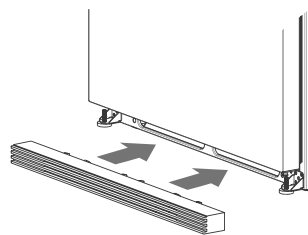

Fig.4 Toe grille installation
- d If the product is stable and no door leveling is required, place toe grille onto the bottom of the product (refer to figure 4):